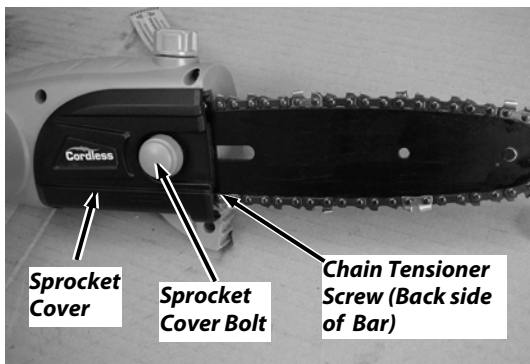

Figure 24
2. Remove the Sprocket Cover Bolt (**Figure 24**).